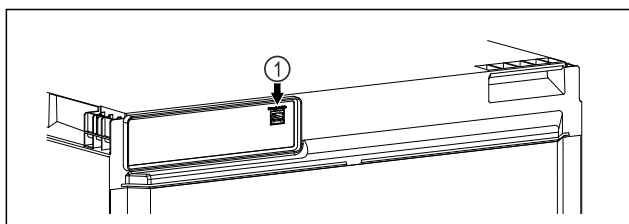

Fig. 18
- ☐ SmartModule Fig. 18 (1) has been inserted.